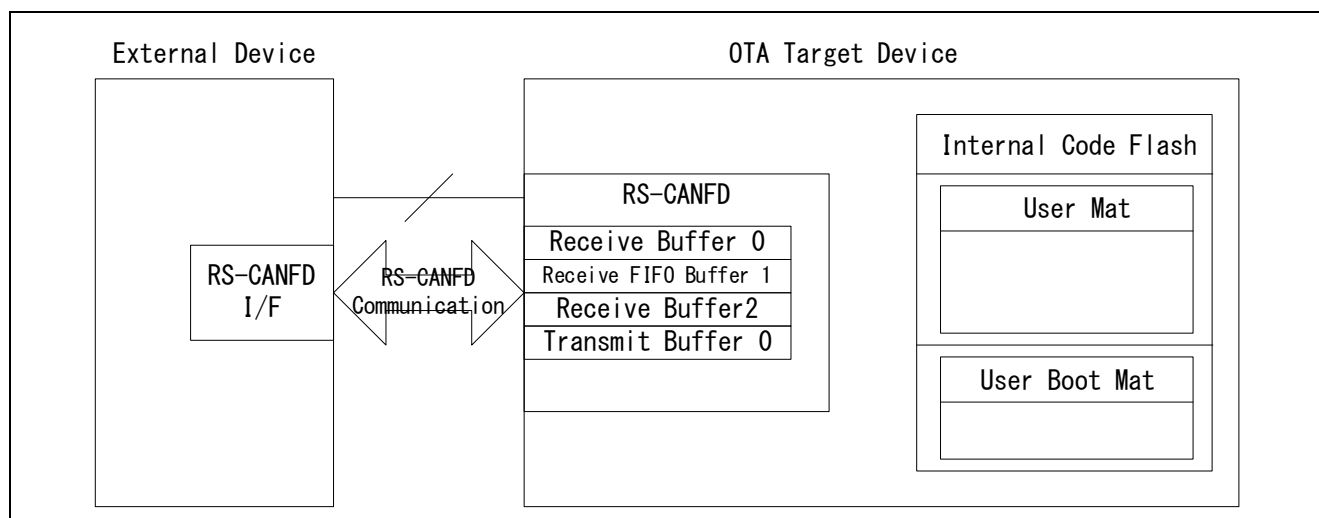

Figure 2-1 System Configuration Diagram
- In this application note, the user mat is rewritten with OTA 2Bank configuration by single map mode. Figure 2-1 shows the memory allocation.